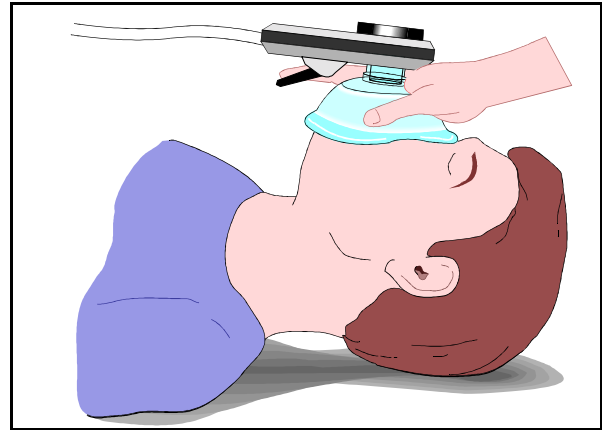

Fig 5.30 Correct Positioning of Mask
- check the airway and place the mask over the casualty's face ensuring a tight seal around the nose and mouth (as shown in Fig 5.30);
- give five inflations to saturate the lungs with oxygen using the manual trigger as shown in Fig 5.30, watching the rise and fall of the chest at the same time;